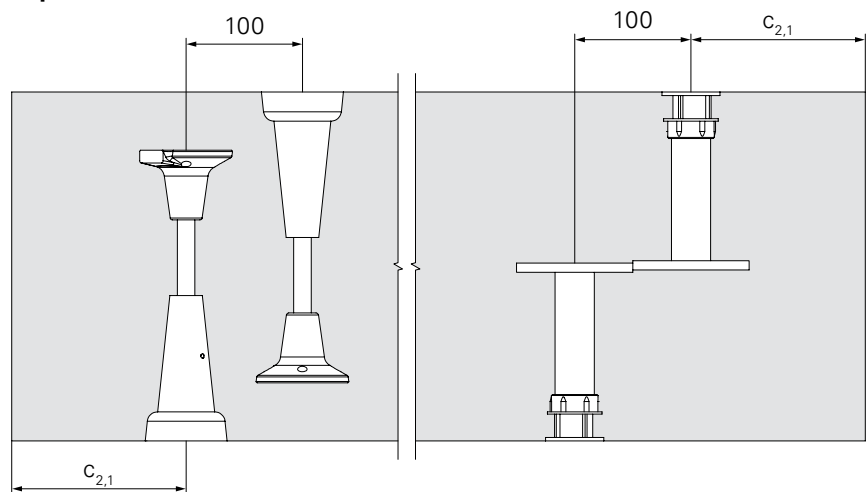

Fig. A2.02
- If $h_1 + h_2 > D$: ensure that the anchoring has an offset arrangement. (Fig. A2.02 + A2.03)